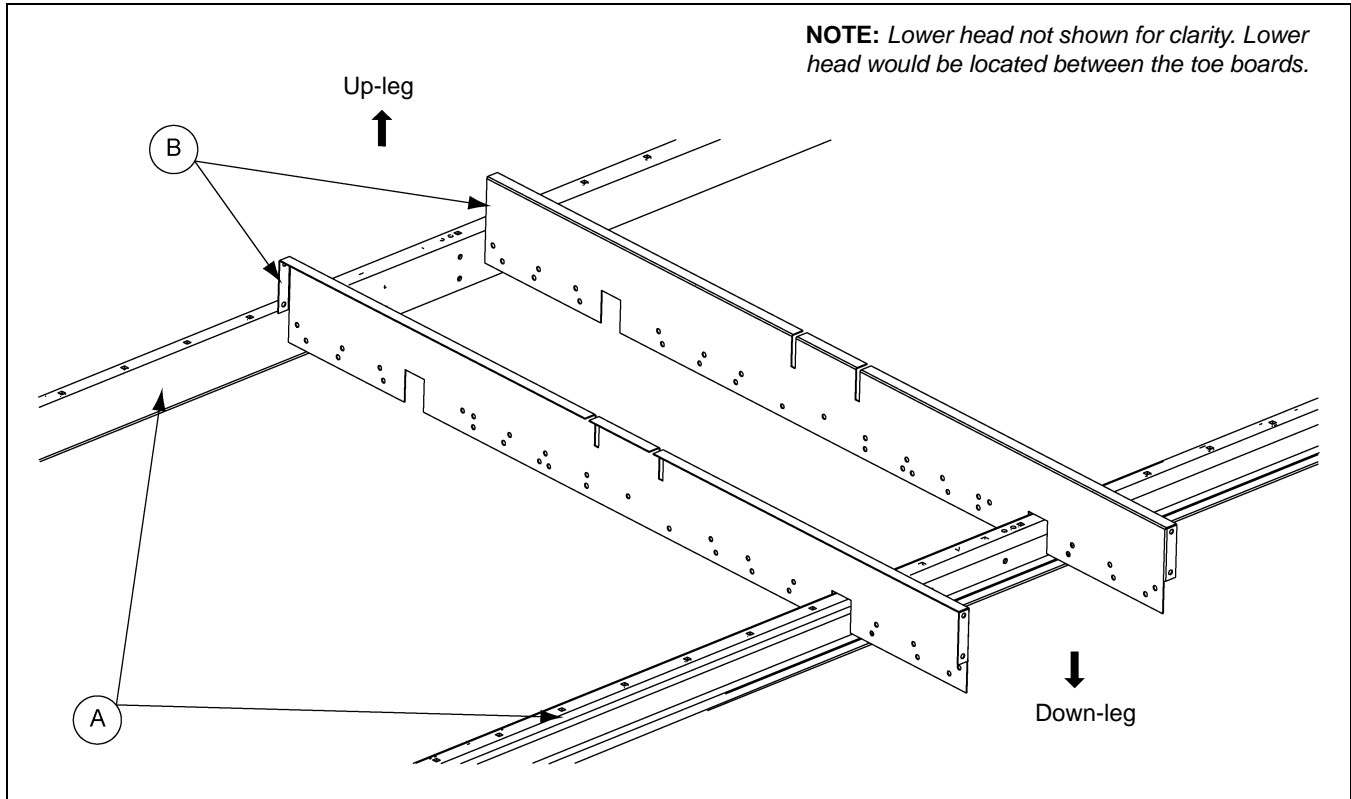

Figure 9G
1. On the non-drive side slide one toe board (HP36STBX) (B) into place.
2. On the drive side slide one toe board (HP36STBX) (B) into place. (See Figure 9G.)